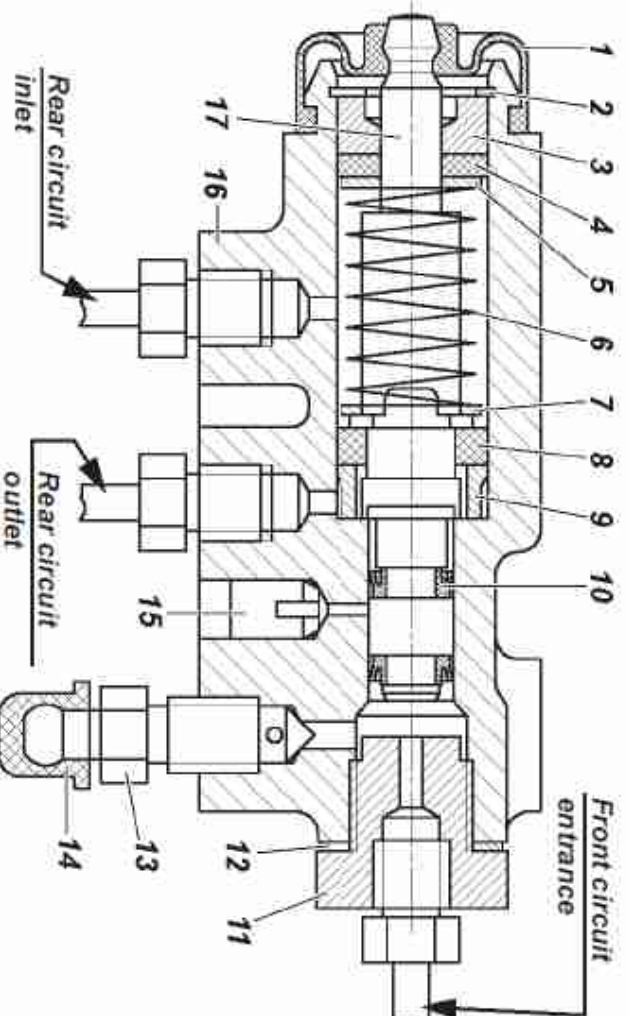

Fig. 9.24. Proportioning valve:
Proportioning valve. The motor vehicles without ABS are equipped with the proportioning valve (Fig. 9.24), which ensures the optimal distribution of braking forces between the axles of motor vehicle and prevent the rear wheels from blocking earlier than the front wheels. When servicing the motor vehicle check the proportioning valve and clean it from dirt and check its attachment. Make sure by visual inspection that the valve and its drive details are not damaged, the brake fluid does not leak and the coupling of the pillar with the flexible arm and the bracket on the rear axle has no play.
When pressing the brake pedal proportioning valve, piston 17 (Fig. 9.24) shall move out from the housing for 1.7–2.3 mm. If the piston has no stroke, as well as poor or excessive stroke, the valve or its drive has malfunctions.
3. Screw bolt 3 until it touches piston tail 17 (see Fig. 9.24) of the valve.